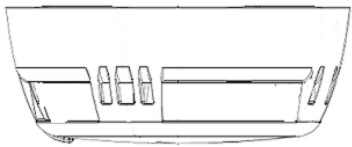

Figure 3
4. Continue to rotate a few degrees until the ONEDETECTOR1X_AP has fully engaged in the ONEBASE. (fig3) Figure 3